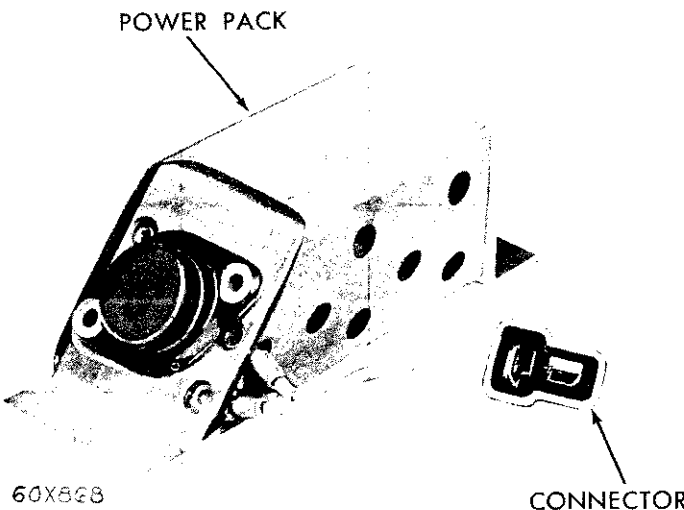

Fig. 72—Power Pack Unit
d. If the D/C indicator glows but the A/C does not, the power unit (Fig. 72) is not operating and should be replaced.